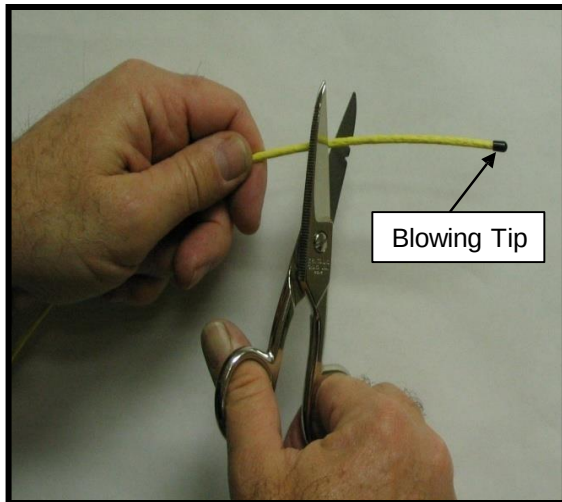

Figure 9
10.6 Remove and retain reusable Fiber Bundle Blowing Tip. **See Fig. 9**